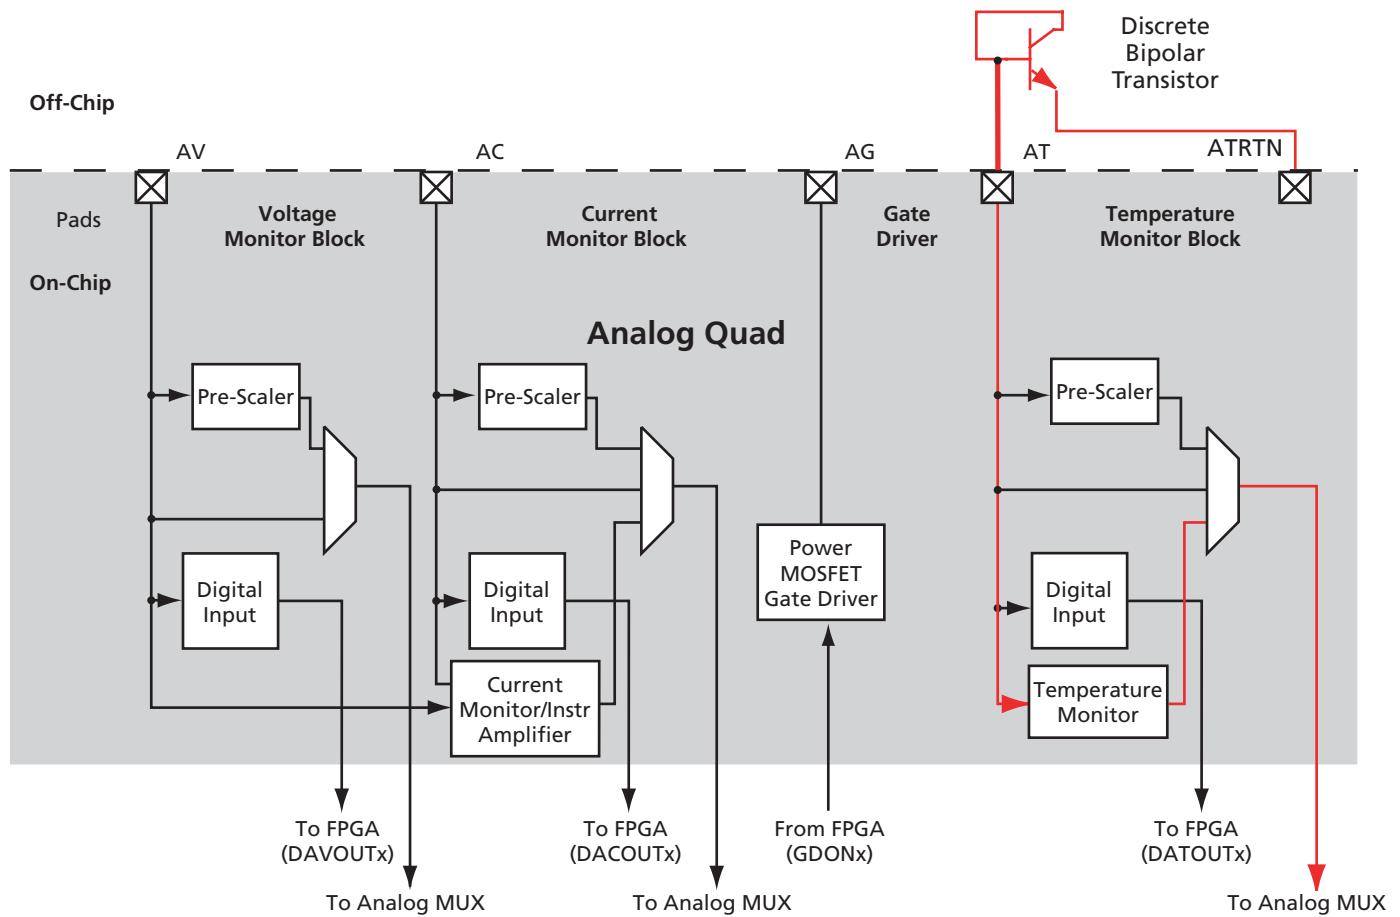

Figure 2-70 • Temperature Monitor Quad
The final pin in the Analog Quad is the Analog Temperature (AT) pin. The AT pin is used to implement an accurate temperature monitor in conjunction with an external diode connected bipolar transistor (Figure 2-70). For improved temperature measurement accuracy, it is important to use the ATRTN pin for the return path of the current sourced by the AT pin. Each ATRTN pin is